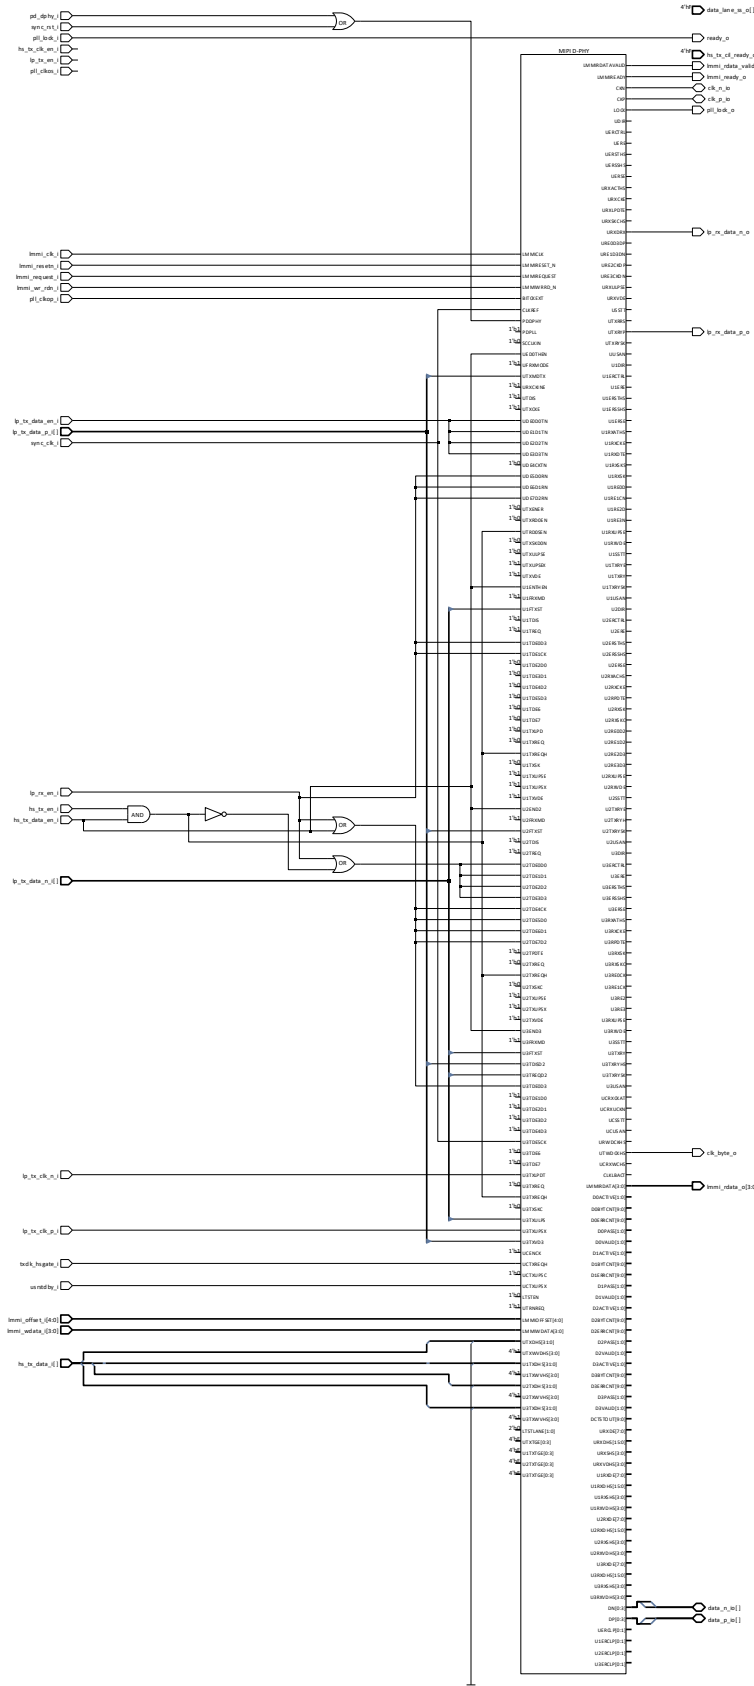
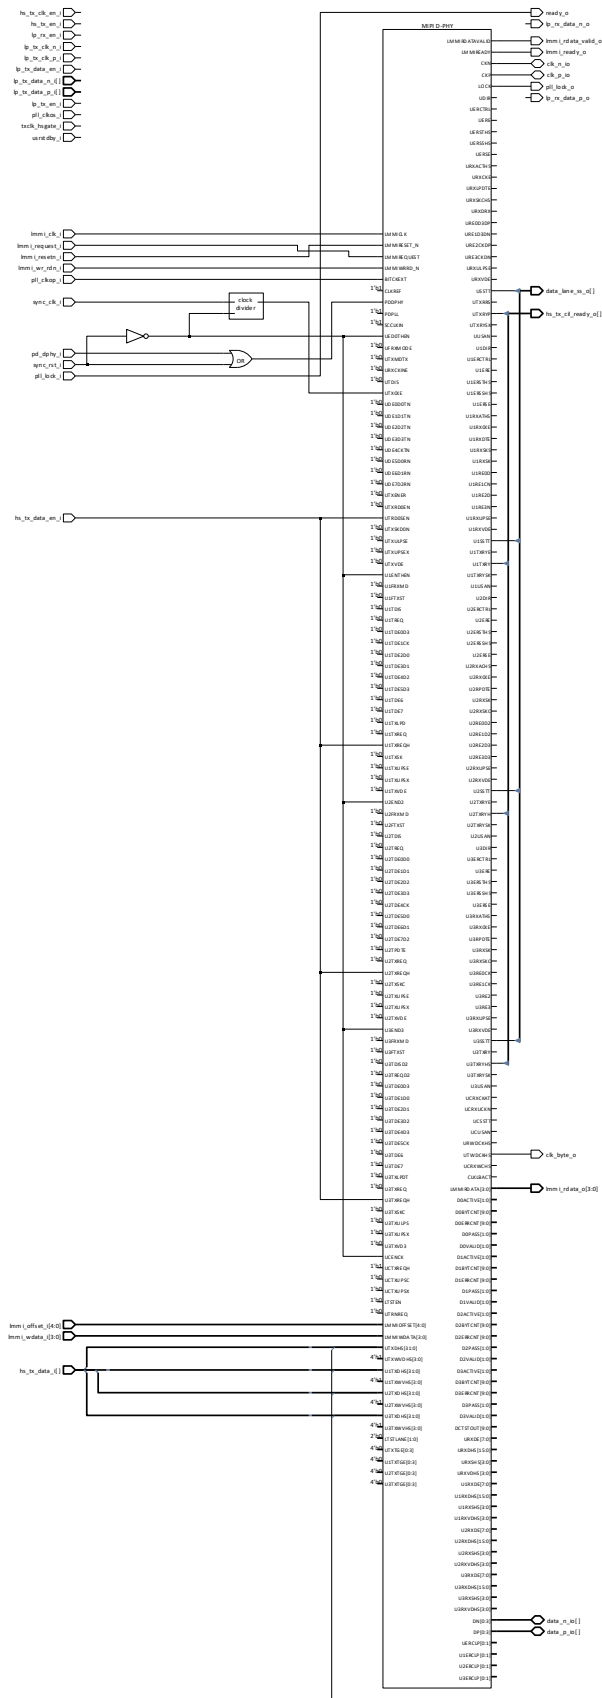

Figure 4.3. MIPI CSI-2 Transmit Interface with No CIL – Hardened D-PHY Module
Figure 4.4. MIPI CSI-2 Transmit Interface with CIL – Hardened D-PHY Module
- Figure 4.3 and Figure 4.4 show the signals connected to the fabric when the Hardened D-PHY is configured for CSI-2 transmit mode. The Lattice Radiant Software IP Catalog user interface settings automatically powers down unused lanes of the Hardened D-PHY.